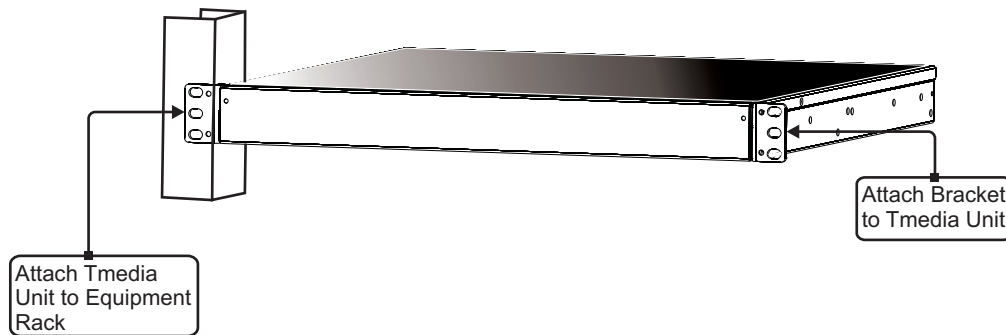

Figure 2.1 Mounting the TMG3200
1. Using two metal screws, attach one angle bracket to the front, left-hand side of the TMG3200 when viewed from the front, as shown in figure 2.1 on page 8. Do the same for the angle bracket on the right-hand side.